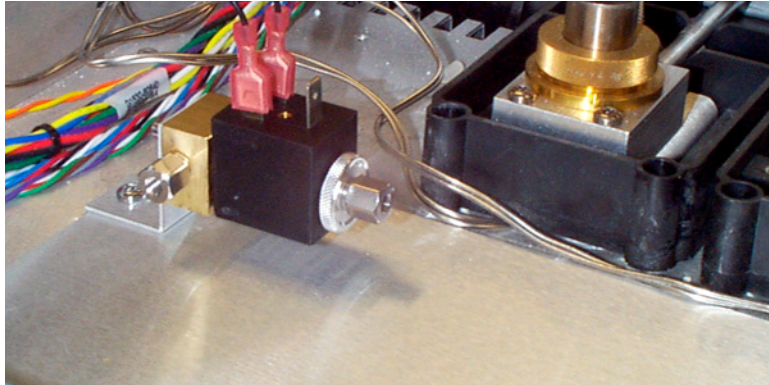

Figure 8 Mount valve and connect driver cable
- 8 Mount the valve and bracket on the oven top as shown in Figure 8. Note that this secures the back of the panel.
- 9 Connect the valve driver cable to the valve (Figure 8).